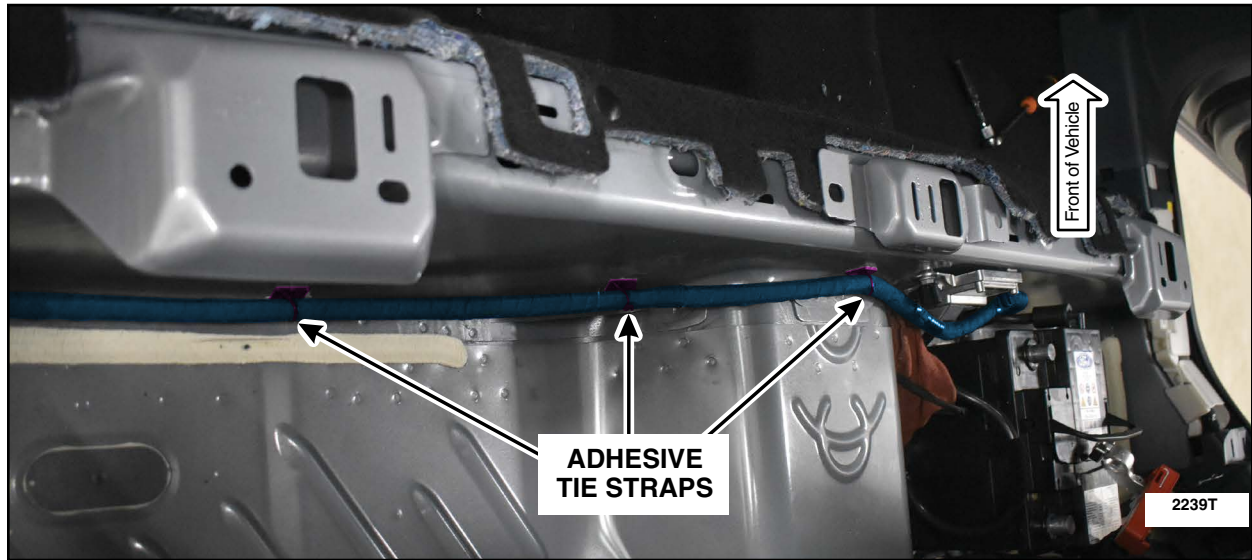

FIGURE 22
27. Route harness as shown in Figure 22, moving towards the battery in the Rear Floor Storage area.